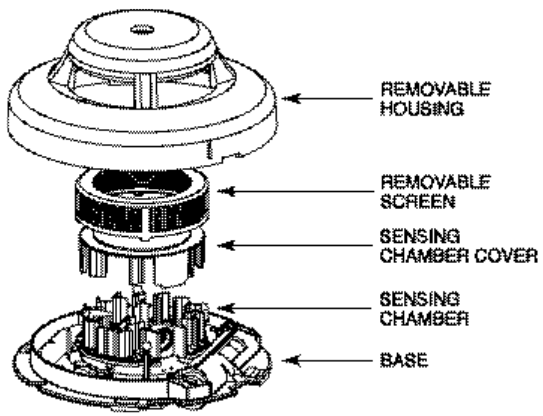

Figure 10. Removal of Cover and Screen for Cleaning
- Remove the screen assembly, pulling straight out (see Fig. 10).